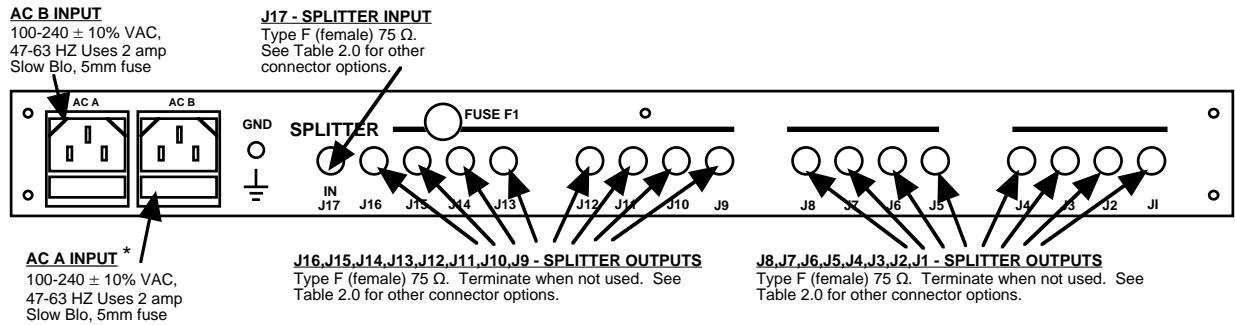

FIGURE 2.1 1584-116/116S REAR PANEL
2.1 Mechanical - The 1584-116/116S consists of one RF printed circuit board (PCB) housed in a 1 RU (1.75 inch high) by 12 inch deep chassis. Redundant, switching, +24 VDC power supplies with the DC output diode OR'd provide redundant power for the internal and external amplifiers and LEDs. (Model 1584-116S has a single non-redundant, switching power supply). Connectors are type F, female for the RF connections (BNC, female option -B or -D). The 1584-116/116S can be secured to a rack using the 4 holes on the front panel. Figure 2.1 shows how the 1584-116/116S is assembled. J25 connects DC Power to the fuse as shown and J30 and J29 connect the DC voltage from the power supplies to the PCB as shown.
The input and output connectors on the rear panel are shown in Figure 2.1.